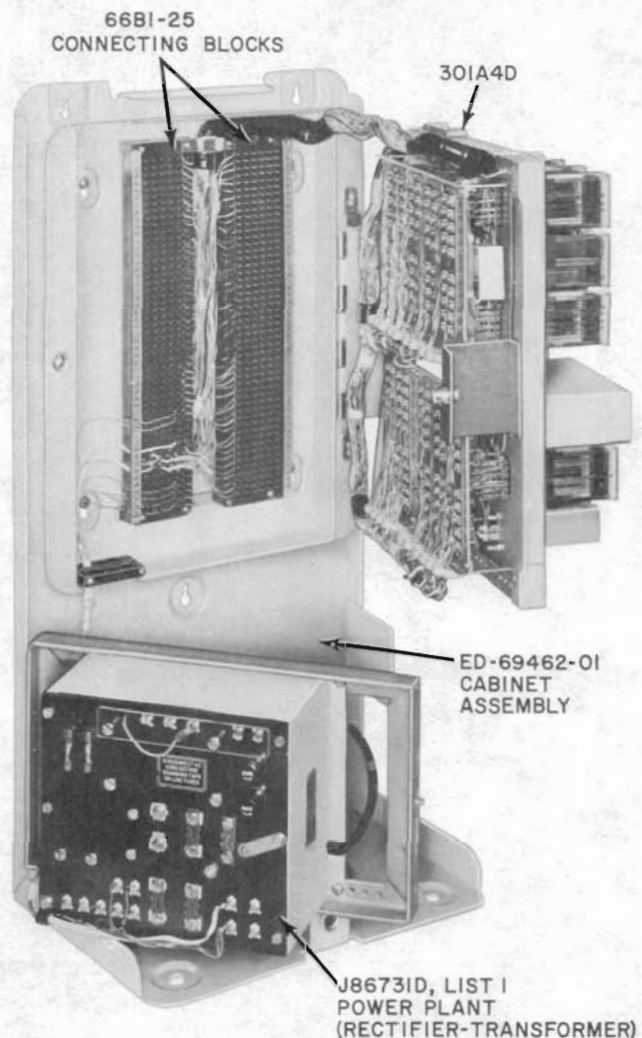

Fig. 3—301A4D KSU, Cover Removed
2.09 Fig. 3 shows a 301A4D KSU with 177A backboard and 66-type connecting blocks.